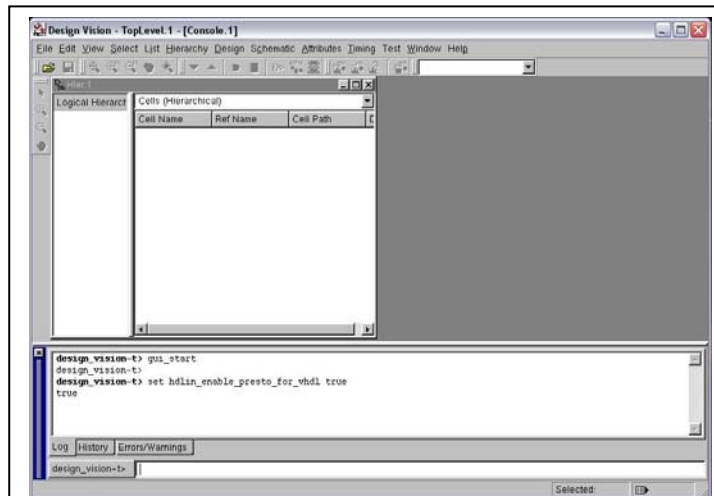

Figure 1: Design Vision window with VHDL enabling command.
3. Type **design_vision &** to start the Design Vision tool. The window in Figure 1 will open.